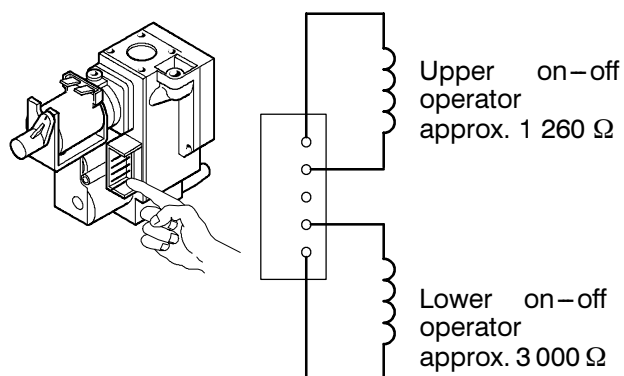

fig. 56
- 3 Measure the electrical resistance between the leads of the on-off operators as illustrated in fig. 56.